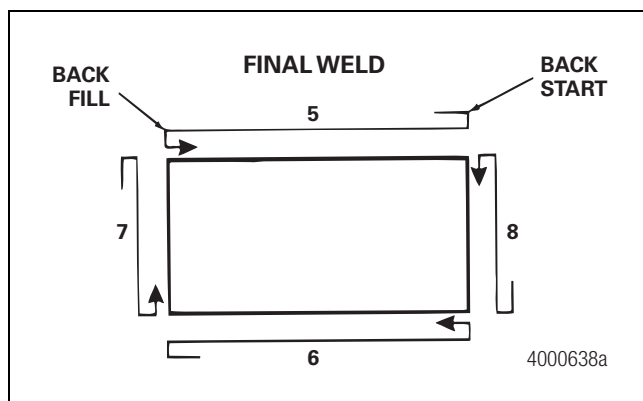

Figure 3.17
4. Beginning at the indicated location, back step the start of the weld from 0.315-0.512-inch (8-13 mm) to prevent a cold start. Figure 3.17.
6. Back fill the end of the weld 0.315-0.512-inch (8-13 mm) to eliminate craters. Figure 3.17.
7. Complete the welding on all sides of the bracket using Steps 3-6. Figure 3.17.